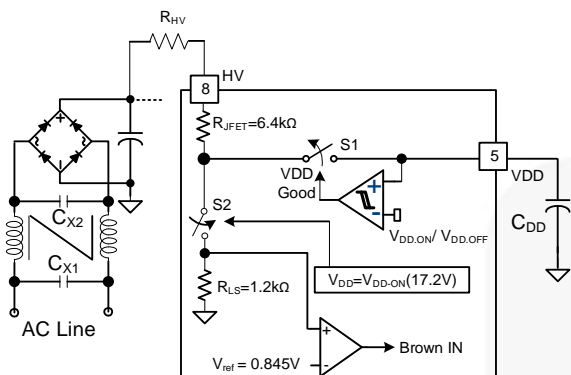
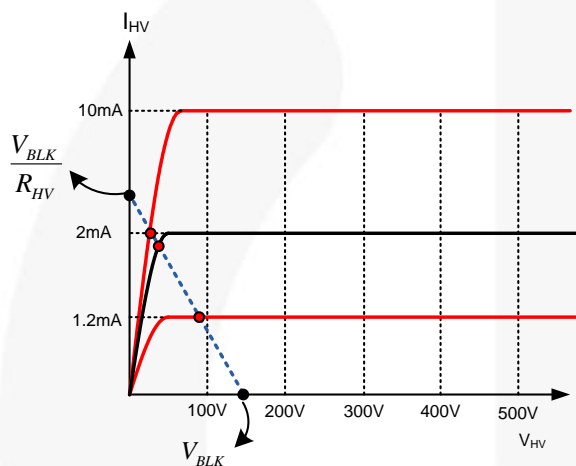

Figure 43. HV Startup Circuit
Figure 44. Characteristics of HV pin
Figure 43 shows the high-voltage (HV) startup circuit. An internal JFET provides a high voltage current source, whose characteristics are shown in Figure 44. To improve reliability and surge immunity, it is typical to use a R_{HV} resistor between the HV pin and the bulk capacitor voltage. The actual current flowing into the HV pin at a given bulk capacitor voltage and startup resistor value is determined by the intersection point of characteristics I-V line and the load line as shown in Figure 44.
During startup, the internal startup circuit is enabled and the bulk capacitor voltage supplies the current, I_{HV} , to charge the hold-up capacitor, C_{VDD} , through R_{HV} . When the V_{DD} voltage reaches V_{DD_ON} , the sampling circuit shown in Figure 43 is turned on for t_{HV_DET} (100 μ s) to sample the bulk capacitor voltage. Voltage across R_{LS} is compared with reference which generates a signal to start switching. If brown-in condition is not detected within this time, switching does not start. Equation (9) can be used to program the brown-In of the system. If line voltage is lower than the programmed brown-In voltage, FAN602L goes in auto-restart mode.